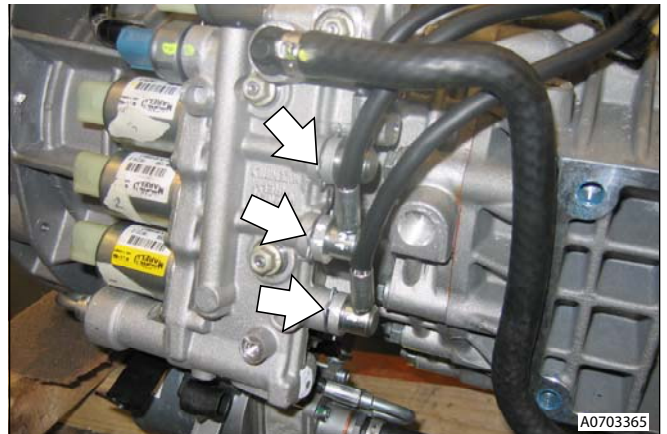

Figure 7
28. Mark and disconnect valve-block connectors positions and disconnect multiplugs (x5) (see Figure 7)).
30. Remove and discard clips (x3) securing hoses into valve block and disconnect hoses (see Figure 7).